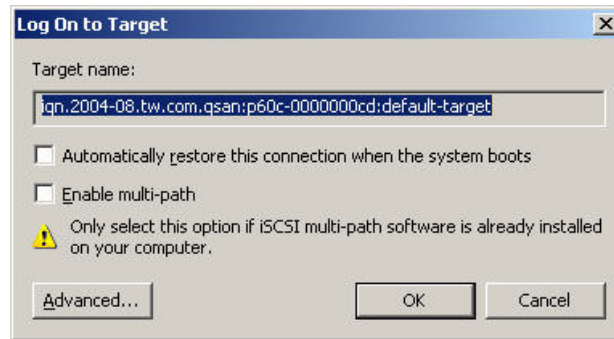

Figure D.5
6. Click **“Log On”**. Please see Figure D.5. Check **“Enable multi-path”** if running MPIO.